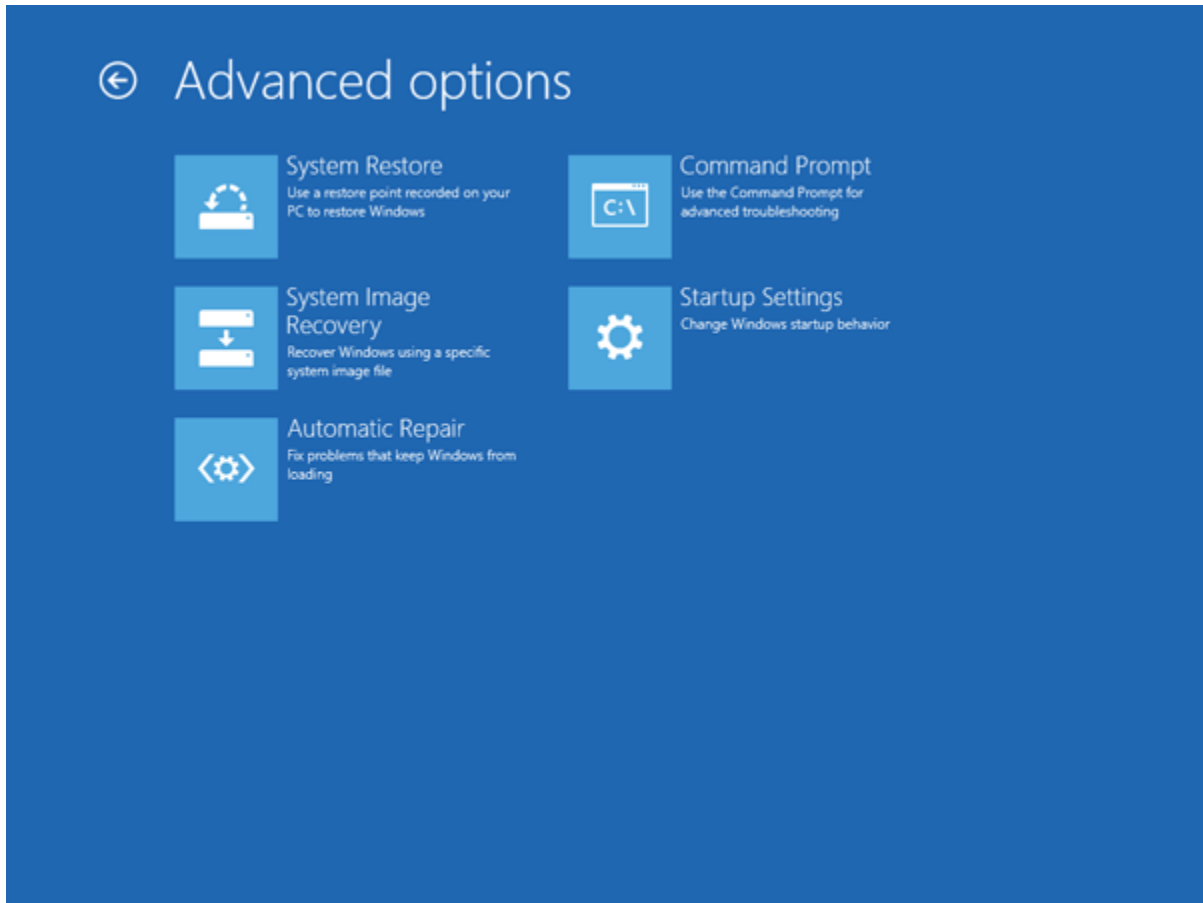

Figure 6.6. Advance Options > Startup Settings
8. In the Advanced Options window, choose **Startup Settings** (Figure 6.6).